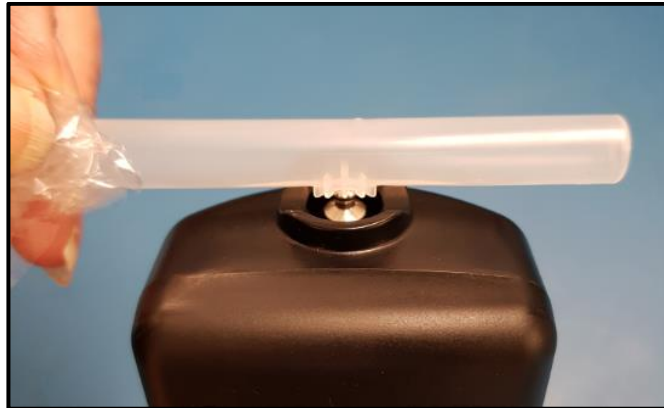

Figure 6 - Locating the Mouthpiece
- Locate the mouthpiece sample inlet port over the mouthpiece locator in line with the recess that surrounds the spigot (Refer Figure 6).